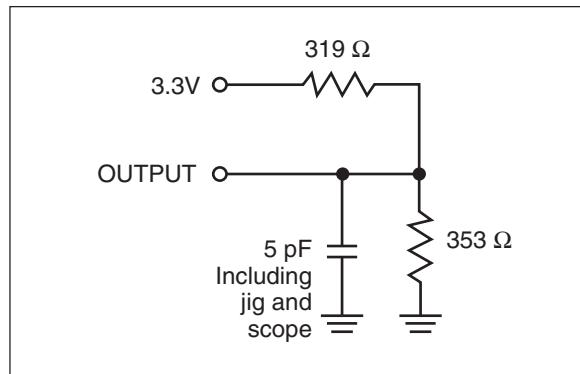

Figure 1b.
- Tested with the load in Figure 1b. Transition is measured ± 500 mV from steady-state voltage. Not 100% tested.